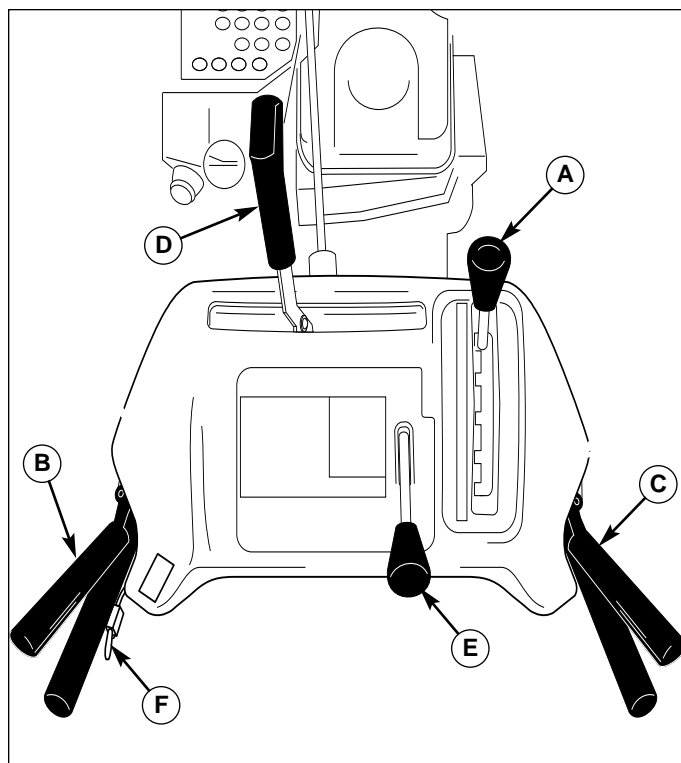

Figure 2. Controls (from operator's position)
2. Check the traction drive control (B, Figure 2). Snowthrower motion should stop when the control is released.
3. Check the auger control (C). Auger movement should stop when the control is released.
4. Check the manual chute direction control (D) for proper operation. The discharge chute should rotate freely in both directions.
5. Check the remote deflector control (E) for proper operation. The deflector should pivot freely up and down when the chute deflector control (E) is pushed to the left and either moved forward or backward.
6. Check the speed selector (A) for smooth operation. The control must move freely into each speed position gate and remain in position when released.